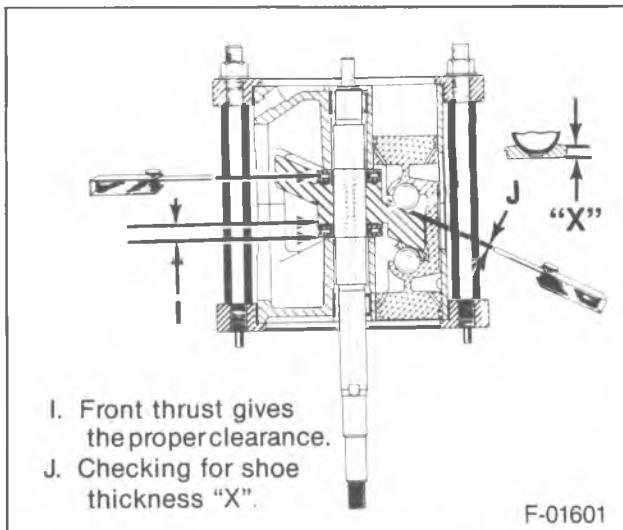

Figure 35—Checking the Piston and Shaft End Play
- An alternate method is to use J 9661-01 in selecting a suitable feeler gage leaf until the result is a 1.1 N to 2.2 N (4 to 8 ounces) pull on the scale between the rear thrust bearing and upper (or outer rear) thrust race (figure 35).